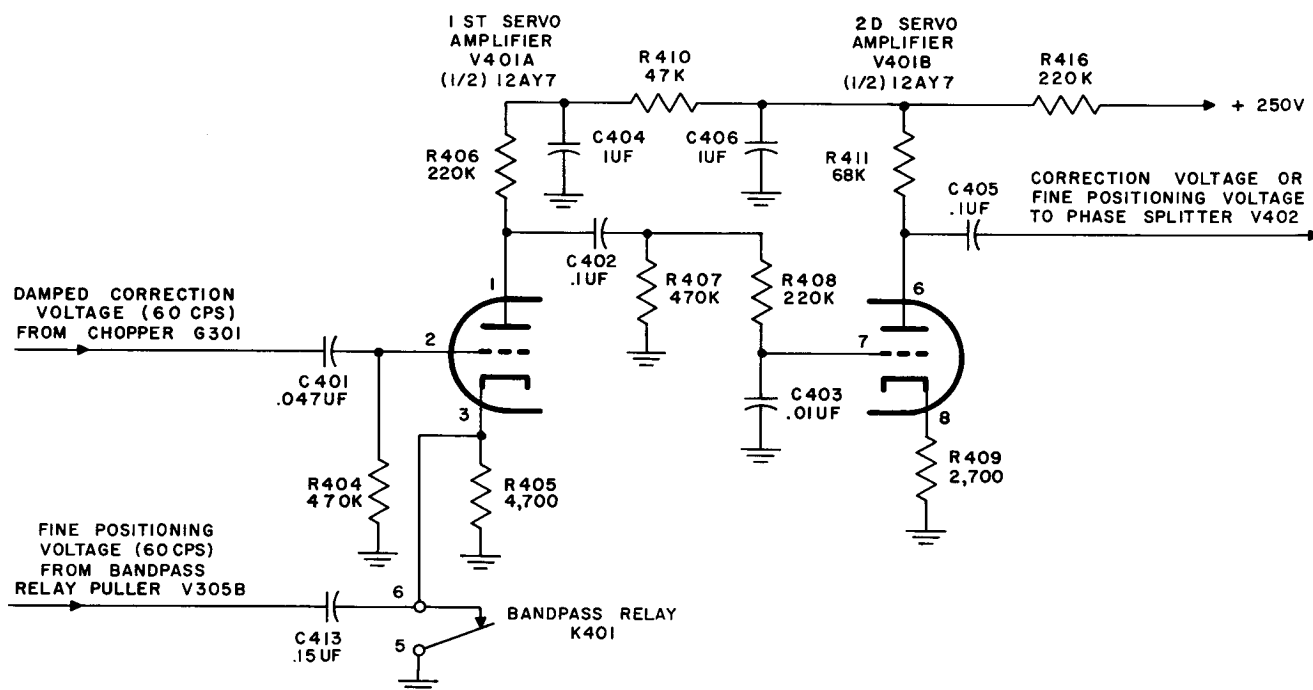

Figure 63. First and second servo amplifiers, simplified schematic diagram.
95. First Servo Amplifier V401A (fig. 63)
96. Second Servo Amplifier V401B (fig. 63)
a. The 20 v ac supply provides the voltage for the reference winding of the servo motor through the FUNCTION switch S707 section C when the switch is in either the OPERATE or the CAL EXC position. High frequency voltages developed in the reference winding are bypassed to ground through capacitor C702. The correction voltage or fine positioning voltage from the servo amplifier output transformer T401 provides the voltage for the control winding of the servo motor. It is the phase relationship between the control winding voltage and the reference winding voltage that determines the direction of rotation of the servo motor. Consider the fine positioning voltage which operates the servo motor to tune the radio frequency oscillator up-band. This voltage initially develops in the bandpass relay puller V305B from the 20 v ac supply. No phase shift of this signal results from the amplification by the bandpass relay puller V305B or from the amplification by the first servo amplifier V401A since the signal is received on the cathodes of these two tubes. The phase-shifting circuit R408 and C403 of the second servo amplifier input circuit (fig. 63) advances the phase 45° and the amplification by the second servo amplifier V401B advances the phase an additional 180° . The phase-shifting circuit R413 and C407 of the phase splitter input circuit (fig. 64) advances the phase 45° and the phase splitter V402 advances the phase 180° . The push-pull servo output amplifier V403 and V404 advances the phase 180° as does the servo output transformer T401. The total phase shift during the development of the fine positioning voltage as received by the servo motor, is 810° , or effectively 90° . Thus, the fine positioning voltage is 90° leading the 20 v ac supply. Therefore, with the fine positioning voltage on the control winding of the servo motor and the 20 v ac supply on the reference winding, the servo motor runs in the direction to produce up-band tuning.